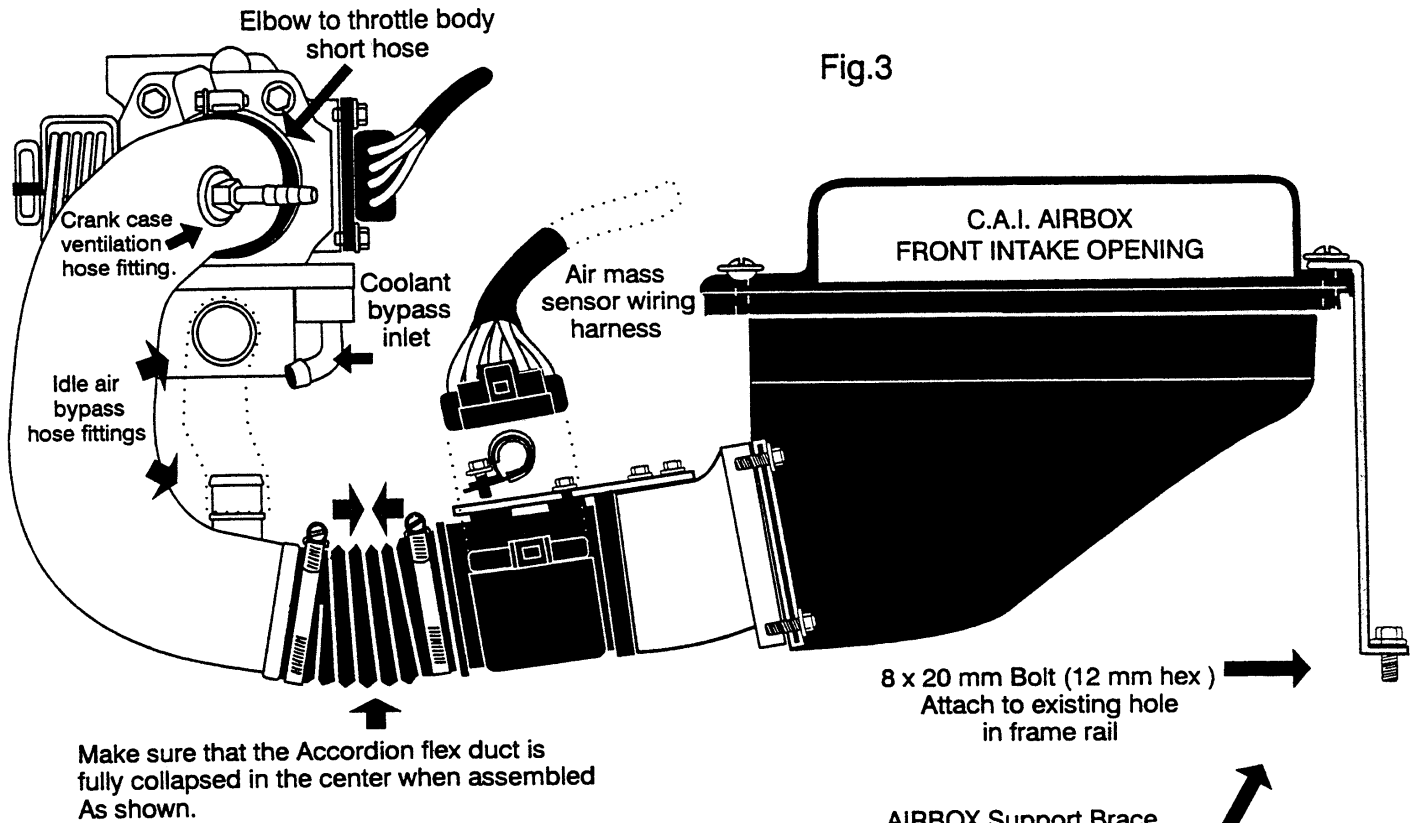
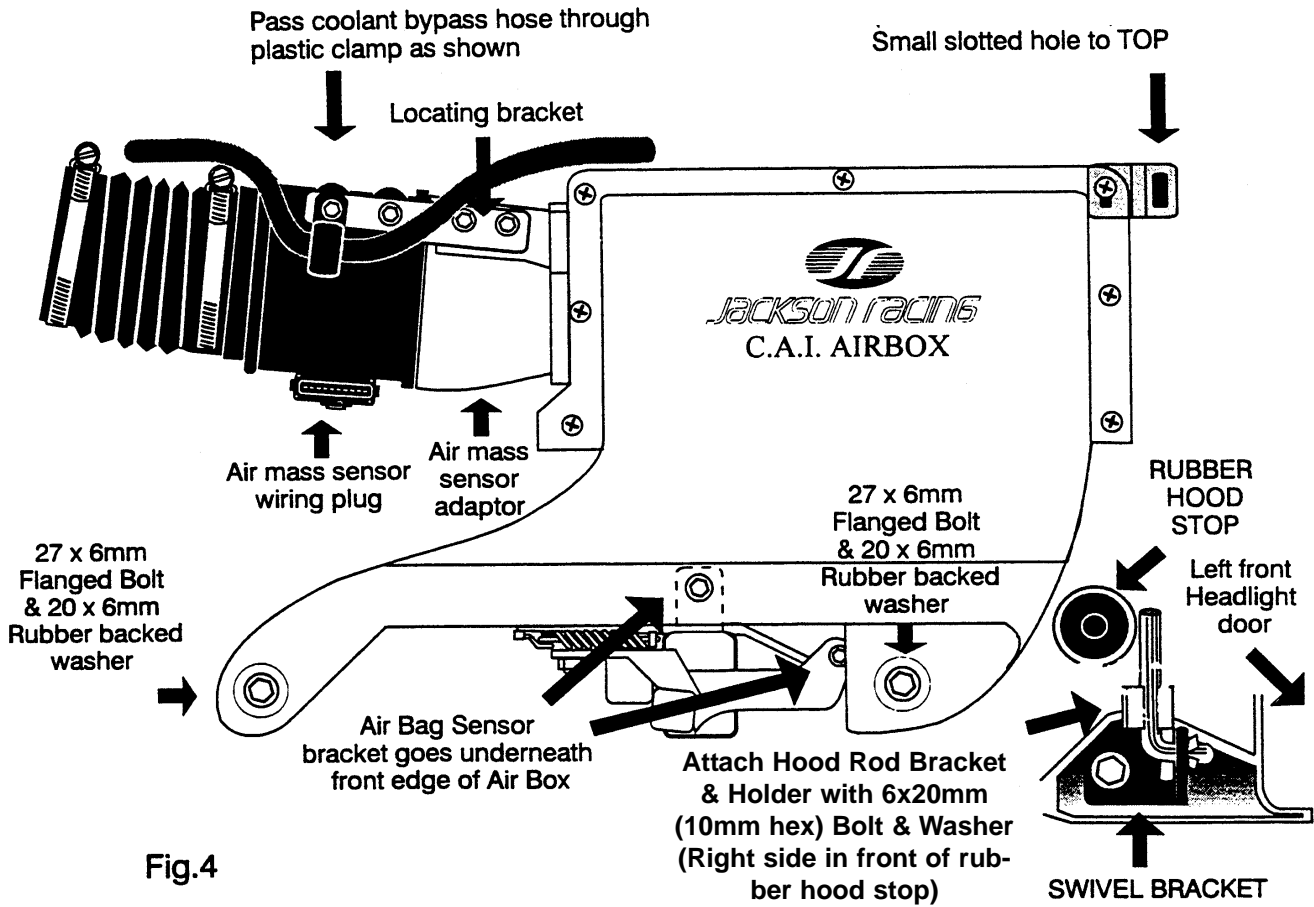

Fig.3
Fig.4
17. Apply a small amount of lubricant to the rubber bellows on the air mass sensor and rotate the unit into the alloy air mass sensor adapter. Install the steel air mass sensor bracket onto the alloy air mass sensor adaptor using the 2 provided countersunk phillips head screws. install 1 of the original 6mm air mass sensor bolts through the bracket and into the air mass sensor. Leave the last bolt hole at the left hand end of air mass sensor empty at this stage. The remaining stock bolt will be used later to attach a cable tie loop to secure the small coolant bypass hose. (See illustration Fig.3 & 4)
19. Attach the flex hose to the bottom end of the rotomolded elbow tube and fit to the air mass sensor using the two 3" hose clamps provided. Make sure the flex hose is compressed as much as possible when installed (See illustration Fig.3). This will allow the engine to move during acceleration and deceleration.
20. Fit the other end of the cast elbow tube to the throttle body using the short rubber connecting hose supplied. Secure with the (2) 3" hose clamps provided.
24. Now use the rubber insulated clamp supplied, to secure the small coolant bypass hose to the air mass sensor using the remaining stock 6 mm bolt (10mm hex). Make sure the hose is secured away from the water pump pulley (See illustration Fig.4).